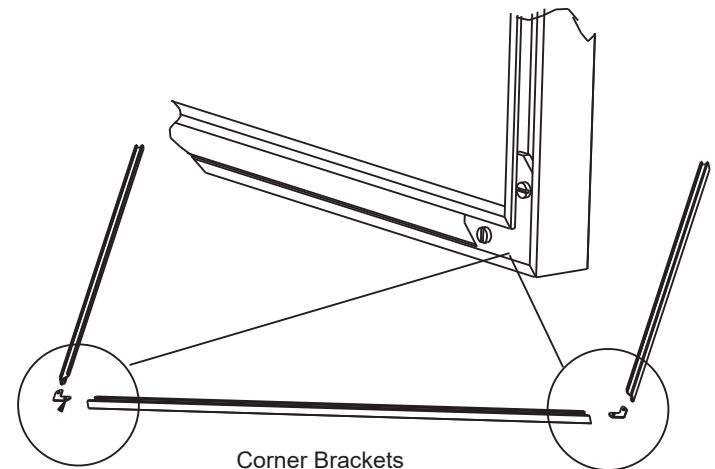

Figure 19.4
4. Using a standard flat screw driver tighten the corner brackets (**Figure 19.4**).